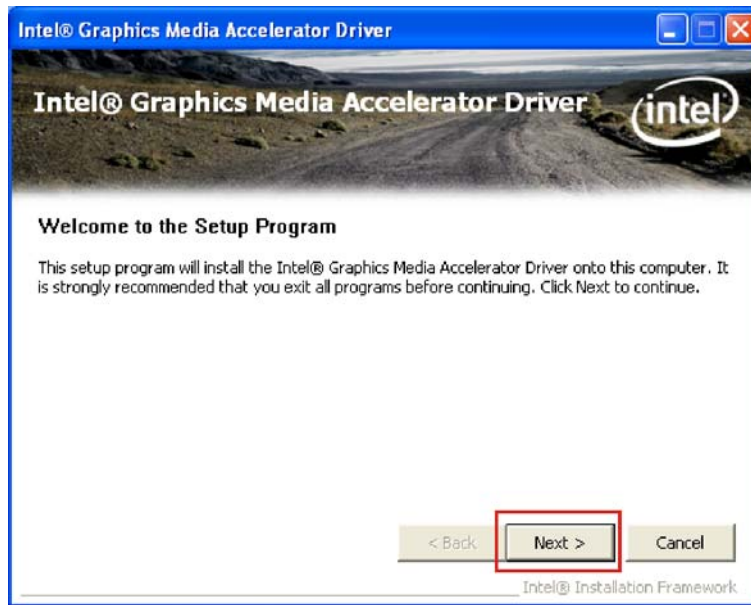

Figure 7-10: Graphics Driver Installation Welcome Screen
Step 6: The welcome screen appears (**Figure 7-10**).